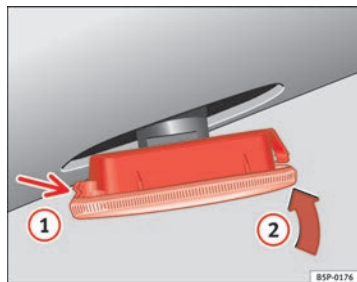

Fig. 197 Side indicator
- First place the indicator in the opening in the bodywork, fixing the tabs ⇒ fig. 197, arrow ①.
- Insert the bulb as shown by the arrow ② ⇒ fig. 197. ■